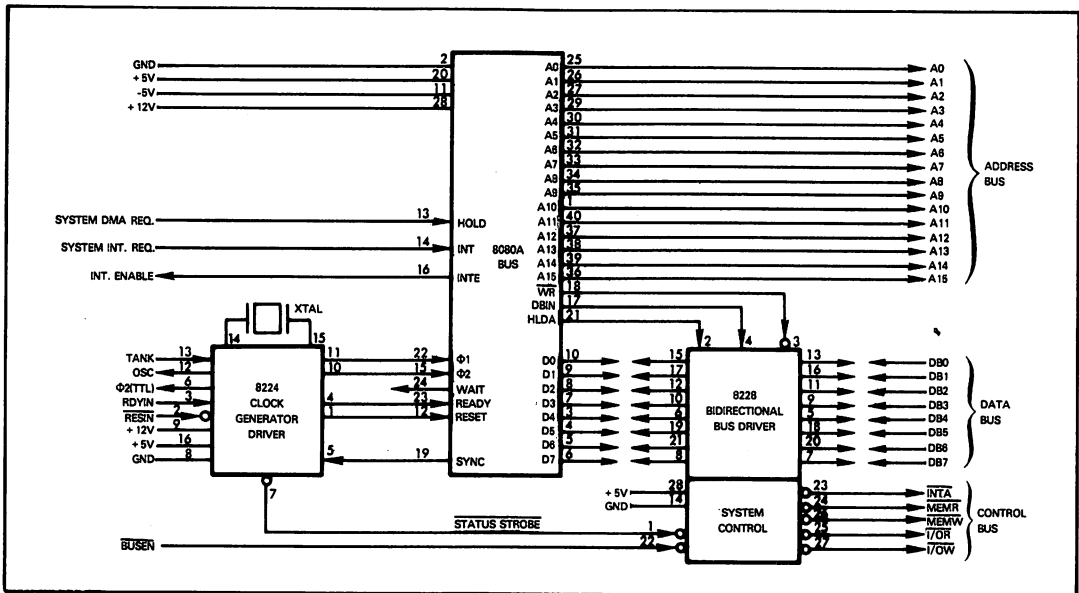

Figure 4-33. A Standard, Three Device 8080A Microcomputer System
**8224 pins and signals are illustrated in Figure 4-31. Figure 4-33 illustrates the 8224 connected to an 8080A CPU and an 8228 System Controller.**
Figure 4-33 illustrates the way in which the 8080A CPU normally combines with the 8224 Clock Generator and the 8228 System Controller. These three devices are frequently looked upon as a single entity.